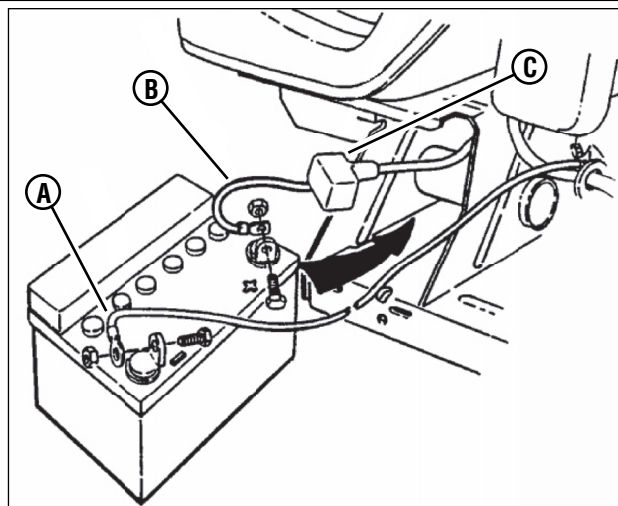

Figure 49: Connecting the battery
4. Observe and note the cable positions **(A and B, Figure 49)** on the battery.
2. Connect the red positive (+) cable **(B, Figure 49)** first, from the wiring harness to the positive terminal (+) on the battery, using the bolt and nut provided in the hardware bag. Connect the black negative (-) cable **(A)** last, to the negative terminal (-) on the battery, using the bolt and nut. Apply a small amount of grease over the terminals to prevent corrosion.
10. Connect the red positive (+) cable (**B, Figure 49**) first, from the wiring harness to the positive terminal (+) on the battery, using the bolt and nut provided in the hardware bag. Connect the black negative (-) cable (**A**) last, to the negative terminal (-) on the battery, using the bolt and nut. Apply a small amount of grease over the terminals to prevent corrosion.